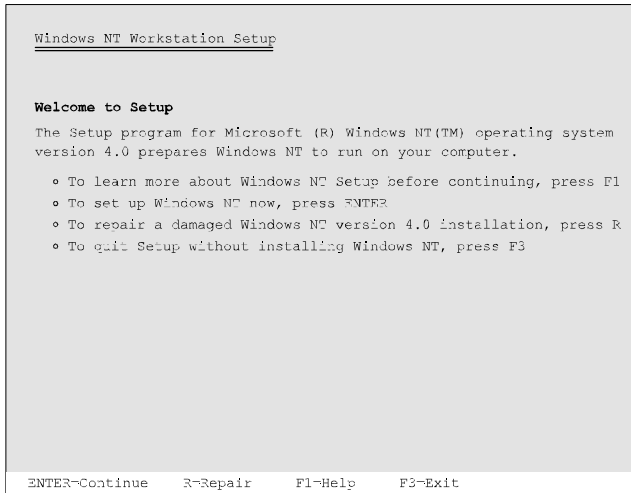

Figure 7-1 Windows-NT Setup
4. Follow the instructions on the screen. The following message will be displayed on your screen (see figure 7-1):